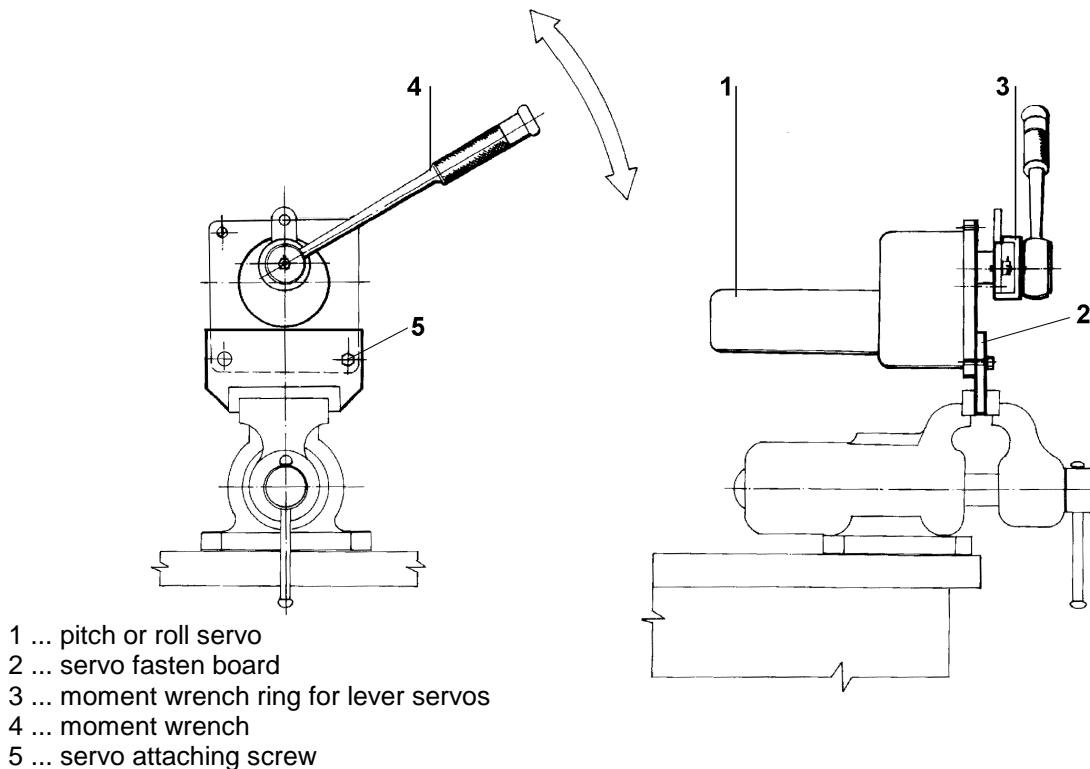

Fig. 5 Pitch and roll servo attaching for Mk measurement
- a) Fasten the board (Fig. 5, pos. 2) into the workshop vice on the worktable.
- b) Fasten the servo (1) with 2 pcs of screws (5) onto the board (2).
- c) Locate a ring (3) for moment wrench onto the servo shaft.
- e) Switch on the power unit and locate the moment wrench (4) into the ring (3).